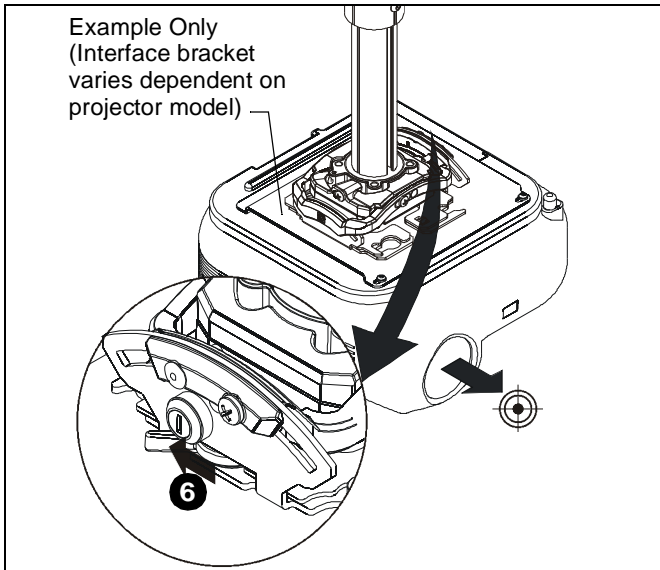

Figure 15
6. Move locking lever to "Locked" position. (See Figure 15)